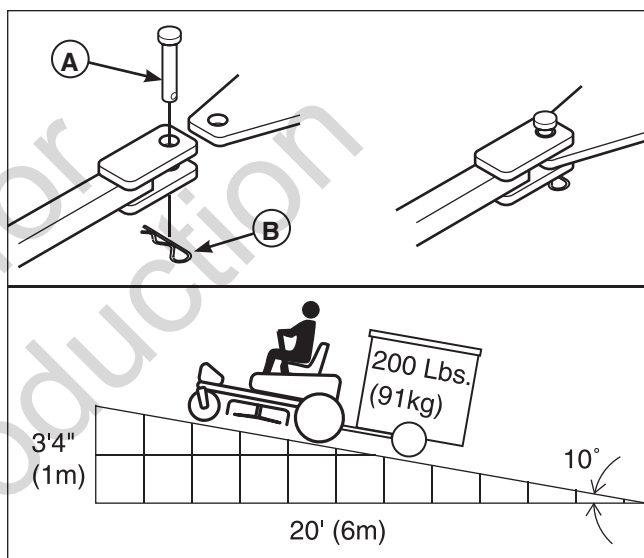

Figure 18. Trailer Weight Recommendations
The maximum weight of a towed trailer should be less than 200 lbs (91kg). Secure the trailer with an appropriately sized clevis pin (A, Figure 18) and clip (B).